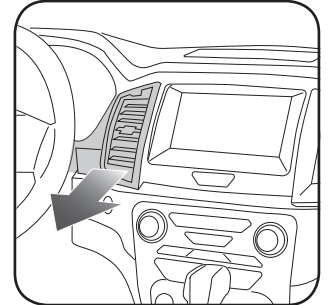

Fig. 1.2
2. Unclip and remove the vent to the left of the radio. (Fig. 1.2)